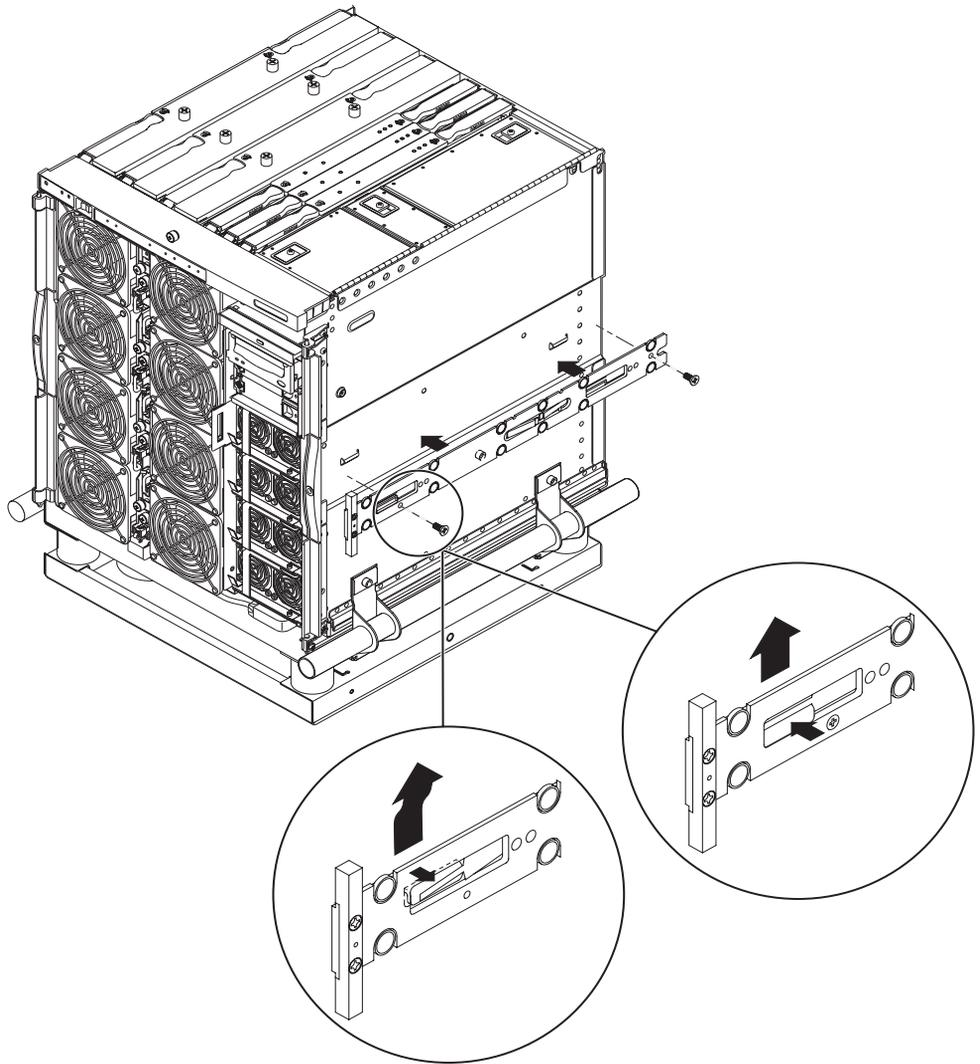

FIGURE 1-4 Spring Clips and Cutouts
2. Push up on the inner rail so that the locating tab, on the side of the server, clips over the cutouts in the rail (FIGURE 1-4).